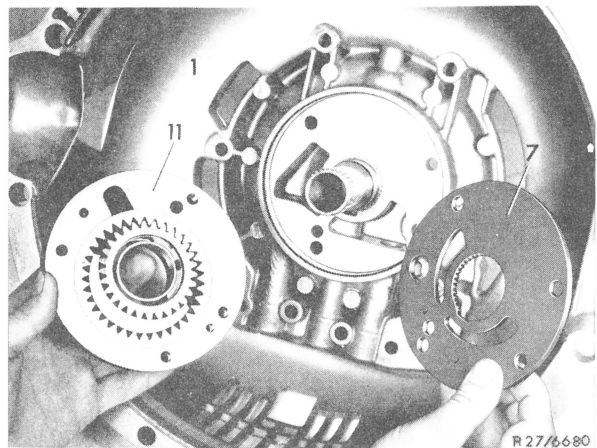

Fig. 4
5 Then remove primary pump (11) with intermediate plate (7) from front transmission cover (1) (Fig. 4).